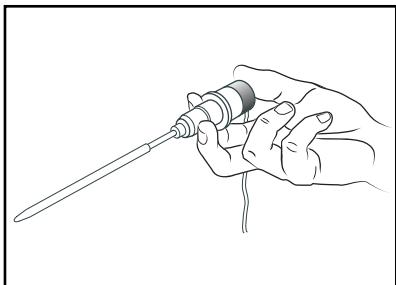

Figure 7 - Probe Ejection
4. Observe the displayed temperature and remove the probe from the patient's mouth. Hold the probe as you would a syringe and press the probe ejection button at the base of the probe to eject the used probe cover into a waste container (see Figure 7).